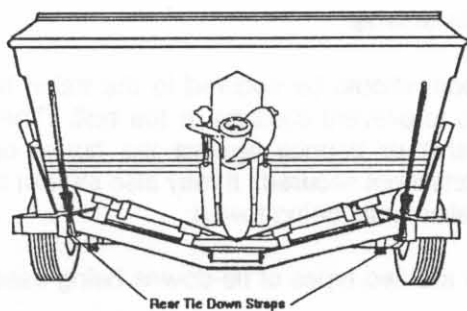

Figure L4.
2. Rear Tie-downs: It is very important that the transom is resting securely on the bunk supports at the rear of the trailer. Rear tie-downs are provided to secure the boat to the trailer. Tighten the tie-downs to prevent the boat from moving. See Figure L4.